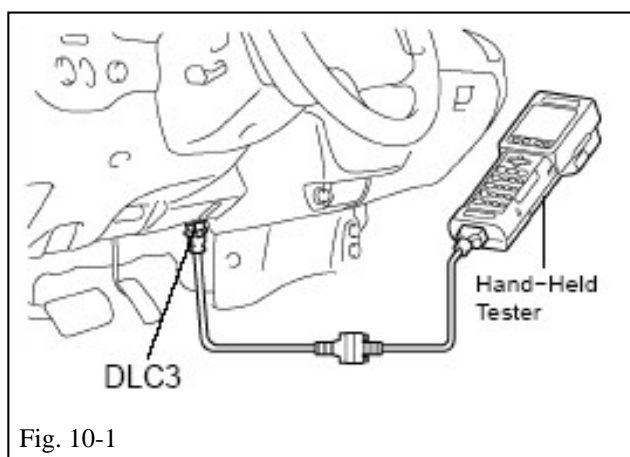

Fig. 10-1
- (b) Connect a hand-held tester to DLC3 (Fig. 10-1).